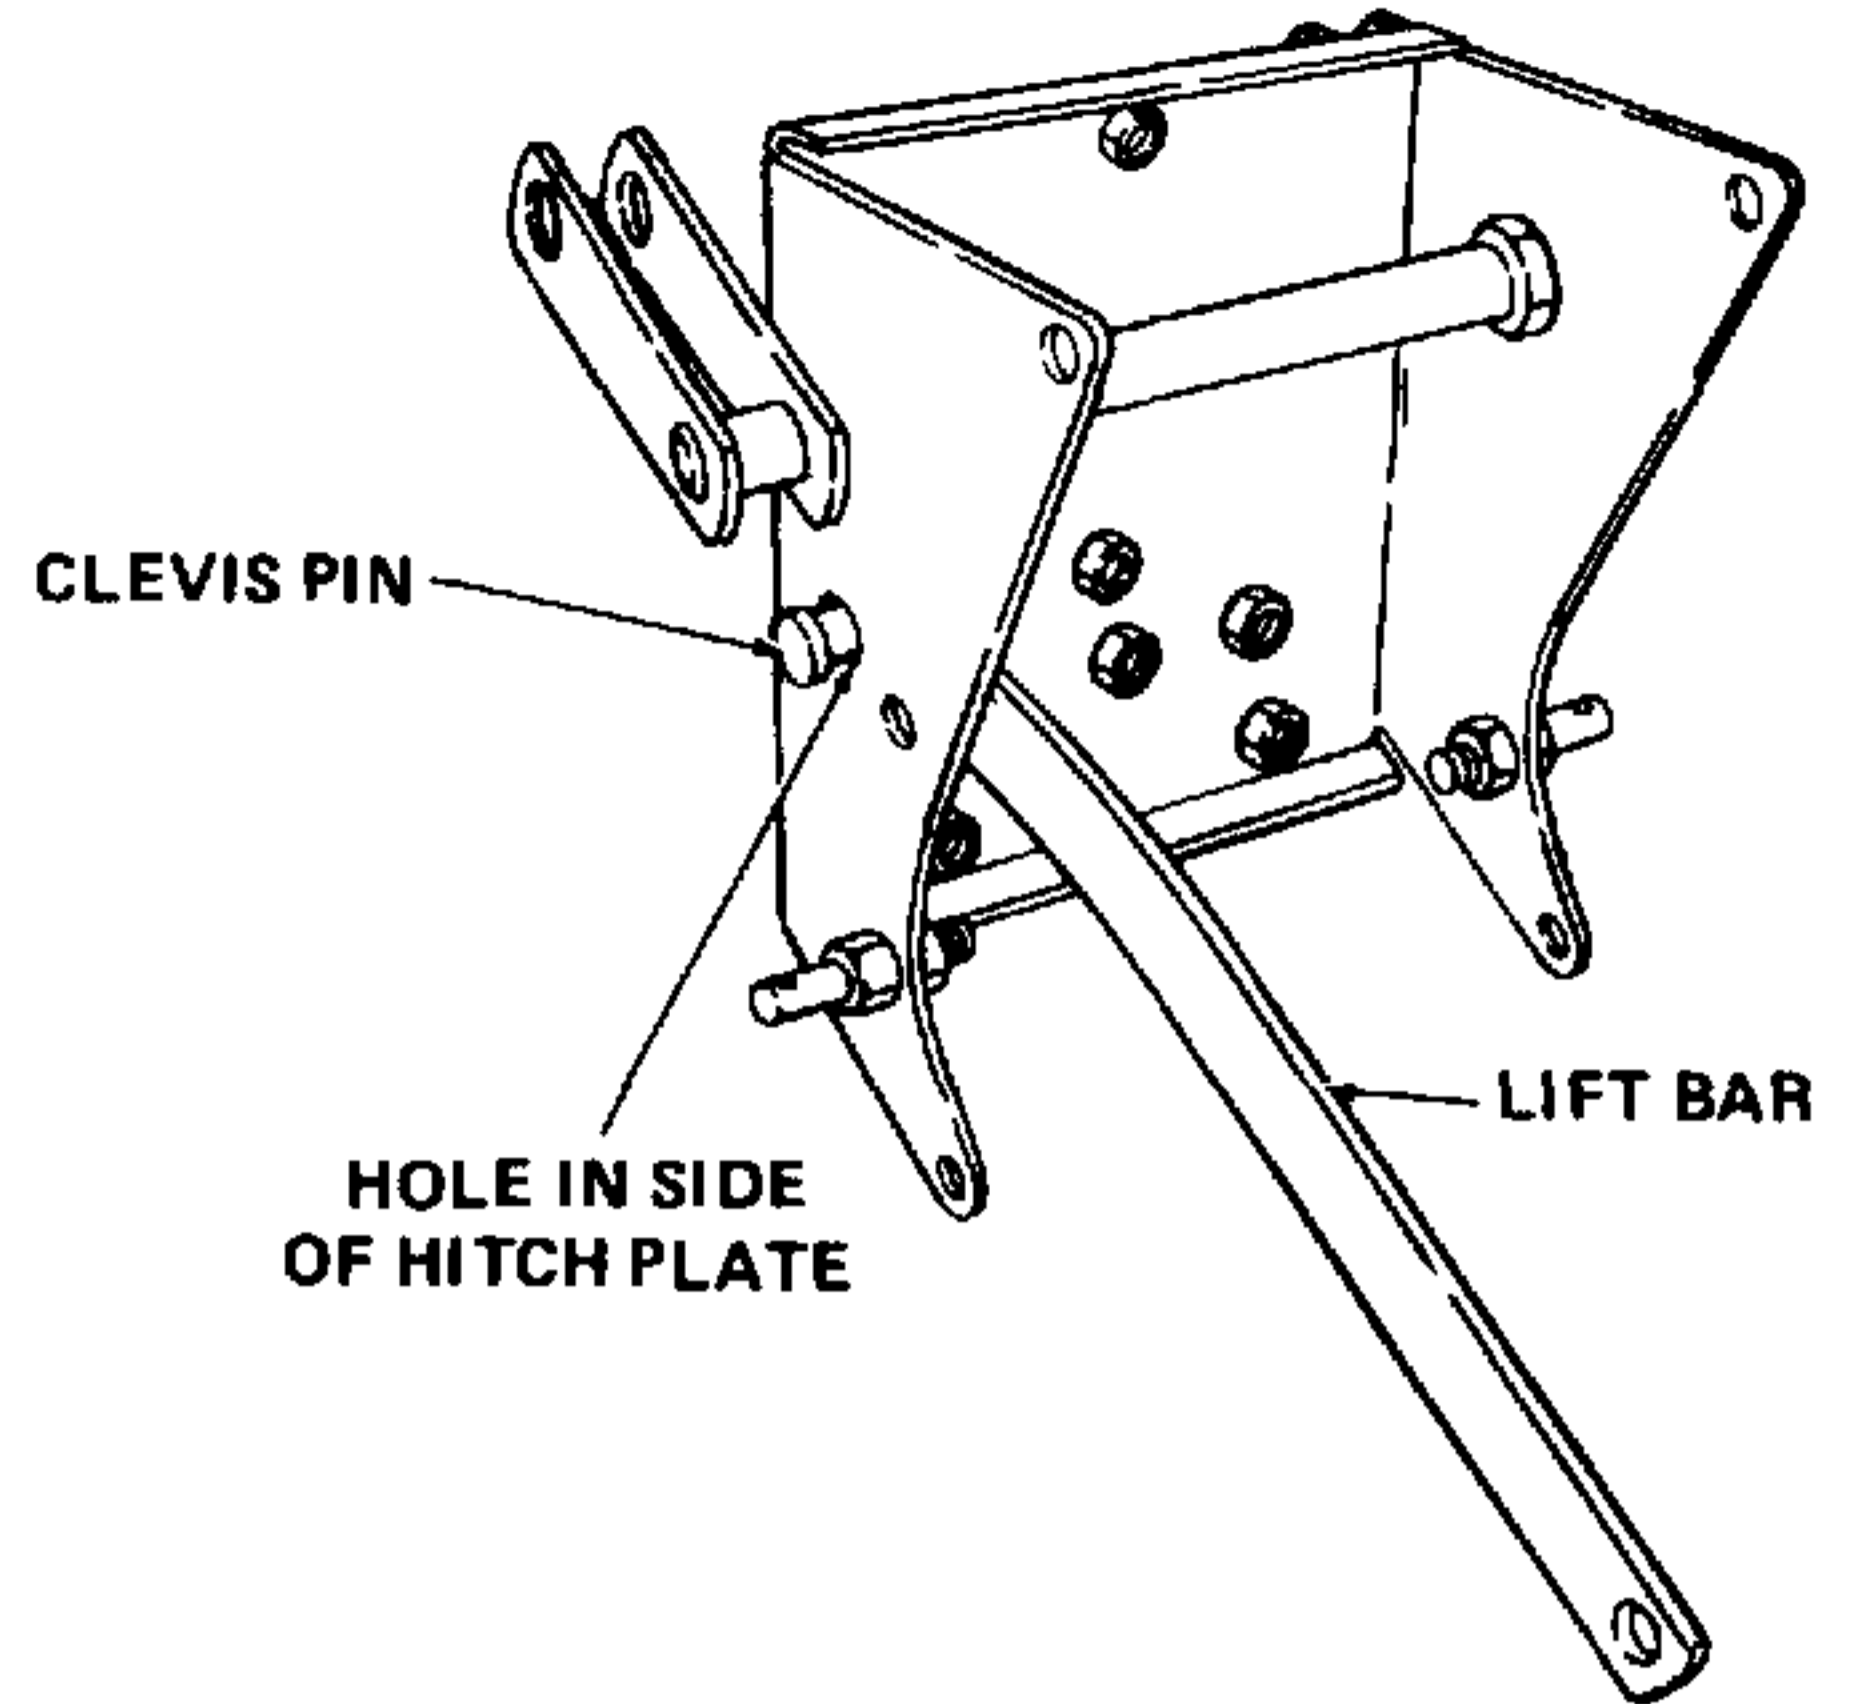

Figure 7-47. Inserting Clevis Pin in Hitch Plate Assembly.
- c. Align internal arm and lift bar with hole on right side of 3-point hitch plate assembly and insert .62 x 1.3-inch long clevis pin (6, Figure 7-40). Secure with 1/8-inch cotter pin (7). Refer to Figure 7-47.